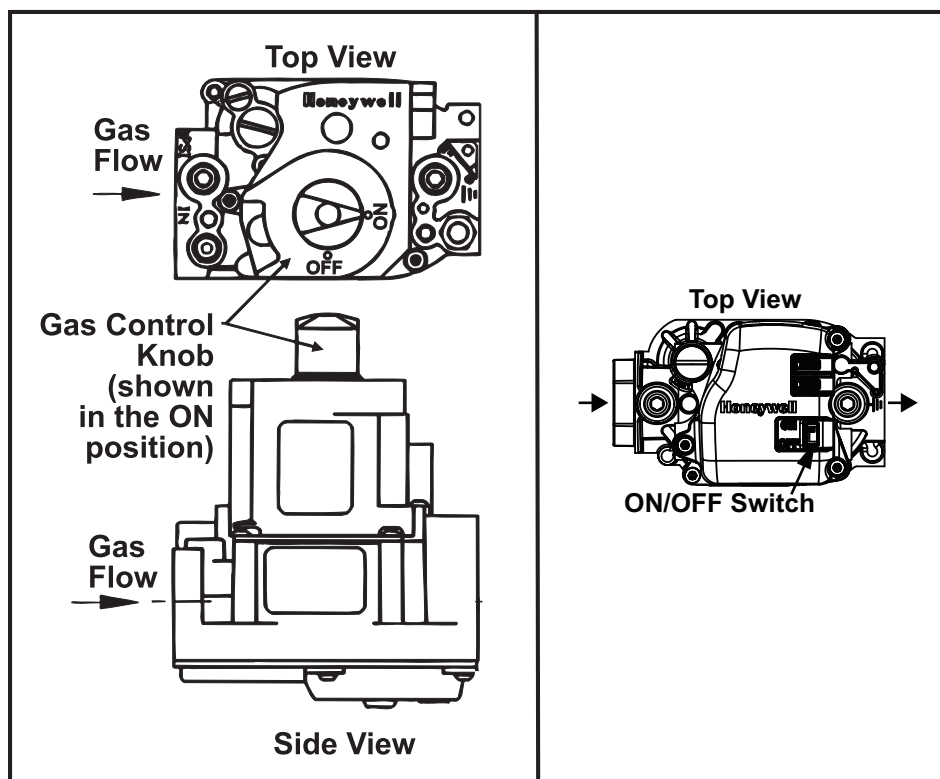

Figure 12. Gas Valve ON/OFF Control
3. Open access door and locate gas control (ON/OFF) knob or switch on gas valve (see Figure 12).